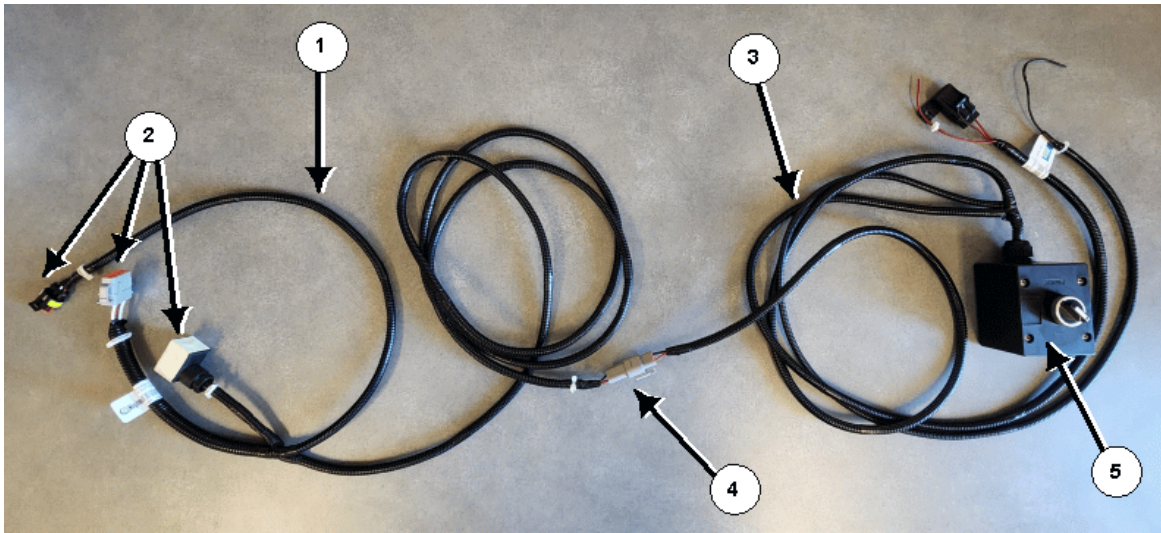

Figure 12: Implement and Cab wiring harnesses
8. Connect the appropriate ends (2) on the implement wiring harness (1) to the 2-speed power shift gearbox, see *Figure 12*.
9. Connect the implement wiring harness (1) to the cab wiring harness (3) along the hitch, see *Figure 12*.
- a. Connect the end labeled 'Main' (4) on the implement wiring harness with the correct end on the cab wiring harness.
- b. Route the connections and switch (5) into the cab of the tractor, securing as necessary. Ensure the wires are routed in a way as to not interfere or come in contact with moving parts.
10. Connect the cab wiring (3) harness to keyed power in the tractor cab, see *Figure 12*.